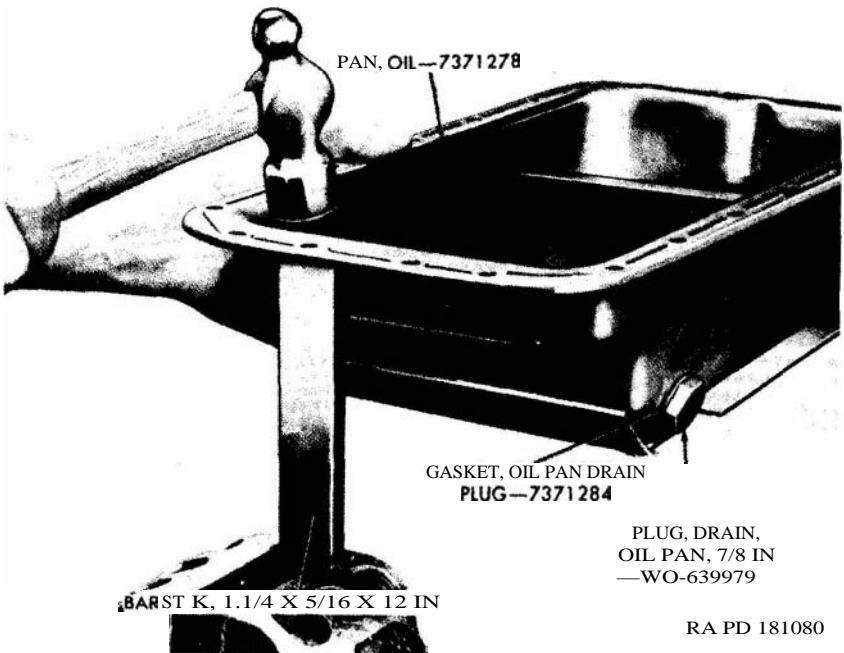

Figure 69. Straightening bolting flange of oil pan.
(1) Replace the crankshaft front oil seal.
- (2) Replace the cover if the cover is dented or warped out of shape.
- (3) Examine the bolting flange of the cover for distortion or stretching of the metal around the attaching bolt holes. If necessary, smooth out the rough areas of the flange following the procedures given in paragraph 89b and shown in figure 69.
a. *Disassembly and Assembly.* Remove the oil pan drain plug (fig. 69) from the side of the oil pan. Replace the oil pan drain plug gasket. Install the $\frac{7}{8}$ -inch drain plug.
$1\frac{1}{2}$ (fig. 69) in a bench vise and, using the bar stock as an anvil, flatten any distorted areas to a smooth level surface. Replace the oil pan if it is deeply dented, distorted, or out of shape.